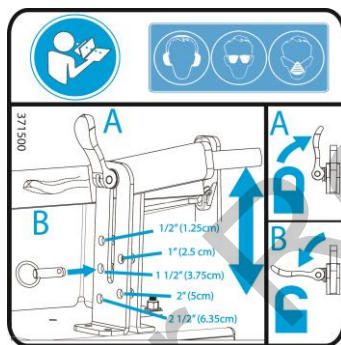

Fig. 4
1. Choose a depth of cut. See instruction label on the unit (see *fig 4*). *Note:* Sod should be cut leaving a minimum amount of dirt (1/4"-3/8") attached to the roots. This minimizes its weight for removal and encourages faster growth when reused.